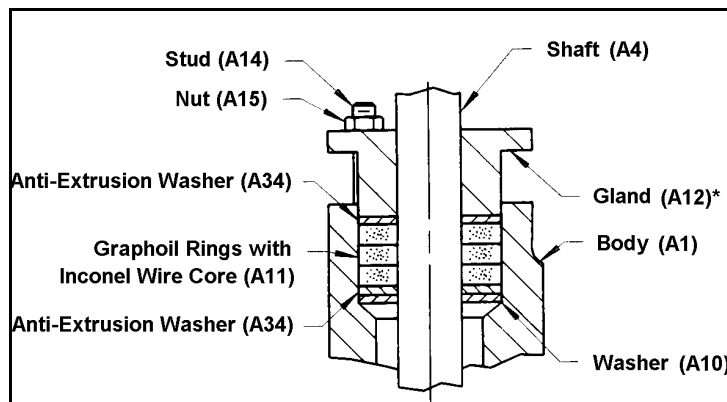

Figure 7—Packing Option G2
- Place the new packing and anti-extrusion washers in the body, one ring at a time, in the configuration shown in Figure 7.